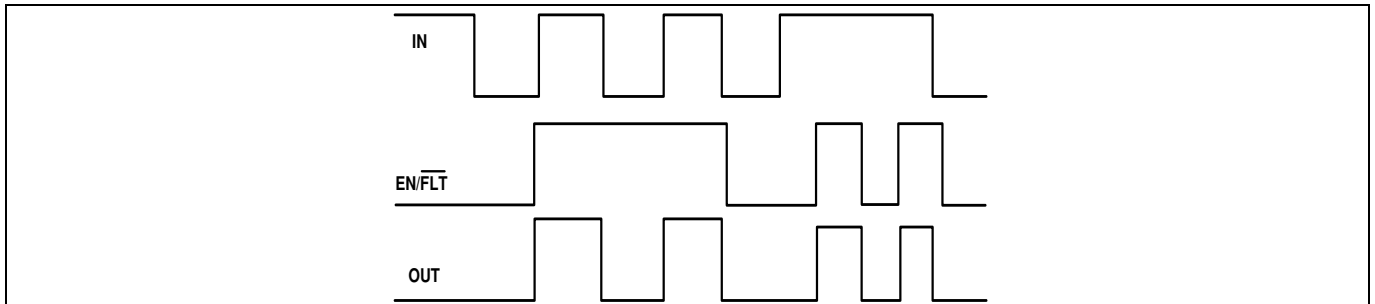

Figure 14 Input/output/enable pins timing diagram
The relationships between the input (IN), output (OUT) and enable (EN/ $\overline{\text{FLT}}$ ) signals of the 1ED44176N01F are illustrated below in Figure 14.